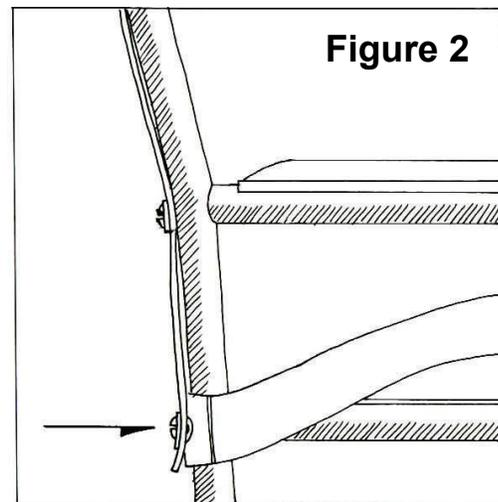

Figure 2
2. Slide the grommet end of each belt between the seatback and chair frame and reinstall the seatback screws. **(Figure 2)**